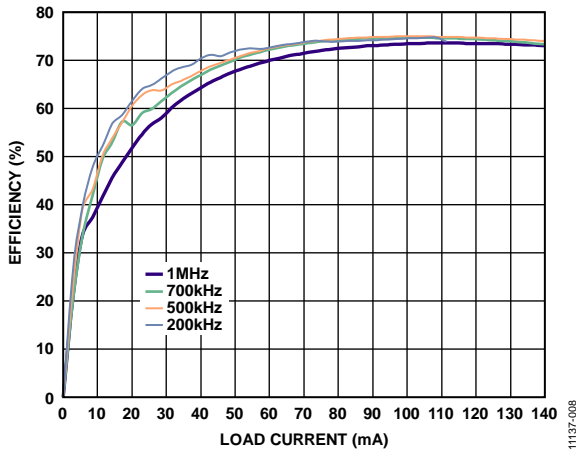
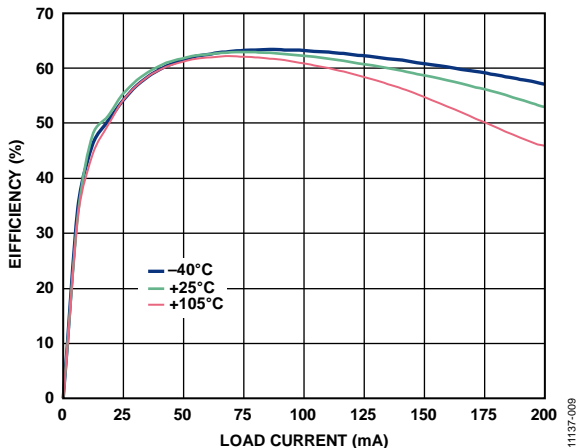
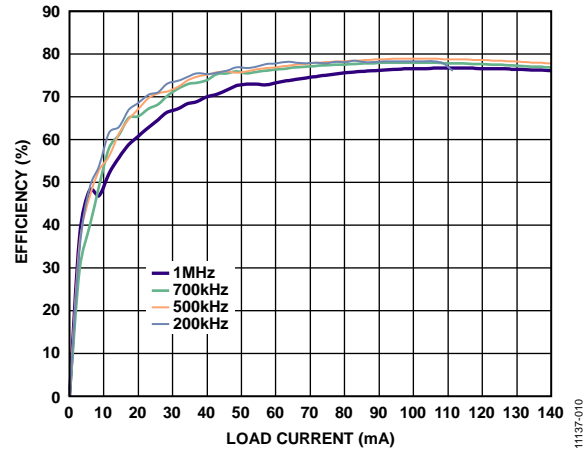
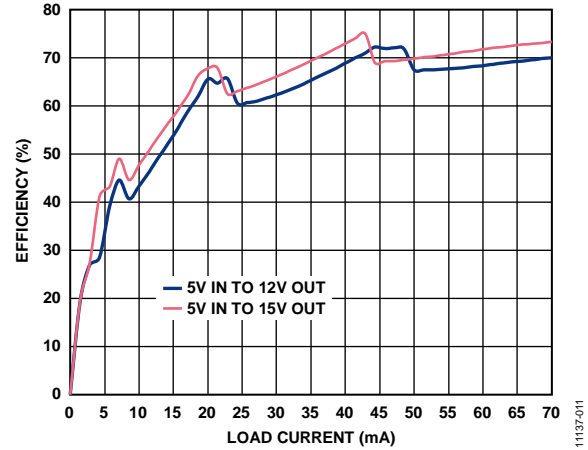

Figure 8. 5 V Input to 15 V Output Efficiency Using a 1CT:3CT Coilcraft Transformer (CR7983-CL) at Various Switching Frequencies
Figure 9. 5 V Input to 15 V Output Efficiency Using a 1CT:3CT Coilcraft Transformer (CR7983-CL) at 500 kHz and Various Temperatures
Figure 10. 5 V Input to 15 V Output Efficiency Using a 1CT:3CT Halo Electronics Transformer (TGRAD-560V8LF) at Various Switching Frequencies
Figure 11. Double-Supply Efficiency for Various Output Configurations Using a 1CT:5CT Coilcraft Transformer (CR7983-CL) at 500 kHz
Side 2 is powered by the secondary isolated 15 V supply. The ADuM4471 internal low dropout regulator converts this voltage to 5 V. The regulated 5 V supply powers the ADuM4471 secondary side. Therefore, the ADuM4471 V_{REG} pin is 15 V, and the V_{DD2} pin is 5 V. The 15 V supply connects to P7 (labeled OUT1). The 7.5 V supply connects to P9 (labeled OUT2). The Side 2 ground reference is tied to P10. See the ADuM4470/ADuM4471/ADuM4472/ADuM4473/ADuM4474 data sheet for an explanation of the double-supply theory of operation. Figure 8 through Figure 11 show efficiency curves for the double supply with the 15 V or 12 V isolated output supply connected to V_{REG} .
The EVAL-ADuM4471EBZ supports multiple transformer options. In the double-supply configuration, the board must be equipped with a Halo Electronics TGRAD-560V8LF (T2) or a Coilcraft CR7983-CL (T3) 1CT:3CT turns ratio transformer (see the ADuM4470/ADuM4471/ADuM4472/ADuM4473/ADuM4474 data sheet for details on transformer selection with the ADuM4471). Figure 8 and Figure 10 show the efficiency of the supply using a 1CT:3CT Coilcraft transformer (CR7983-CL) and a 1CT:3CT Halo Electronics transformer (TGRAD-560V8LF), respectively, at various switching frequencies. Figure 9 shows how temperature affects efficiency.
The user can select a different switching frequency by removing R12 and R13 and then choosing R18 based on Figure 3. The board is configured for the 500 kHz setting by default. Figure 8 and Figure 10 show how the switching frequency affects the efficiency of the supply using a Coilcraft transformer (CR7983-CL) and a Halo Electronics transformer (TGRAD-560V8LF), respectively.
In the double-supply configuration, the EVAL-ADuM4471EBZ board can be configured to have 12 V regulated and 6 V unregulated secondary isolated supplies by short-circuiting R11 with a 0 Ω resistor for the regulated supply voltage is set by the fraction of the supply that is fed back to the ADuM4471 via the voltage divider comprising R6, R11, R15, and R10. The voltage at the feedback pin (FB) is 1.25 V. With R10 open-circuited, the ADuM4471 feedback voltage is approximately 1.25 V if V_{ISO} is 15 V. When R10 is short-circuited, the feedback voltage is approximately 1.25 V if V_{ISO} is 12 V (see the ADuM4470/ADuM4471/ADuM4472/ADuM4473/ADuM4474 data sheet for more information about setting the secondary isolated output supply voltage). Figure 11 shows the efficiency curves for both output settings at 500 kHz using a Coilcraft transformer (CR7983-CL).